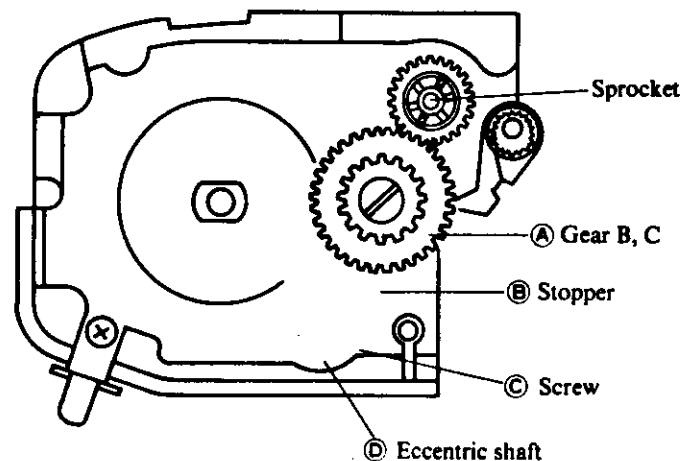

Fig. 52
2. Sprocket reverse stop (see Fig. 52)